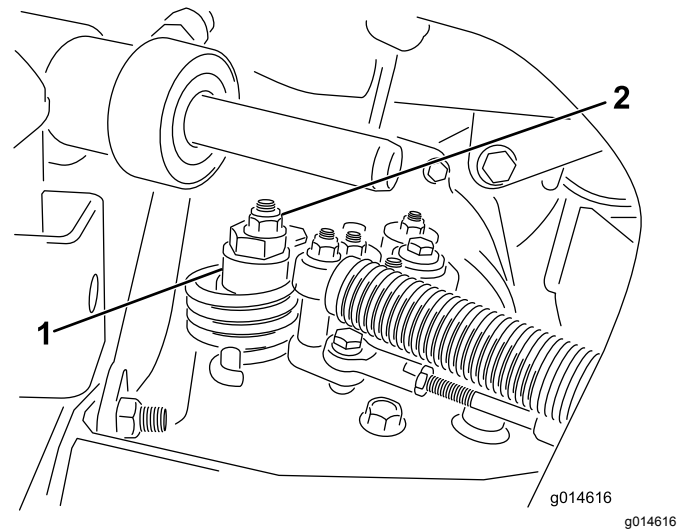

Figure 32
- A. Loosen the nut securing the eccentric to the top of the hydrostat (Figure 32).
- C. Rotate the eccentric until creep does not occur in either direction. When the wheel stops rotating, tighten the nut locking the eccentric and the adjustment (Figure 32). Verify the adjustment with the throttle in the SLOW and FAST position.